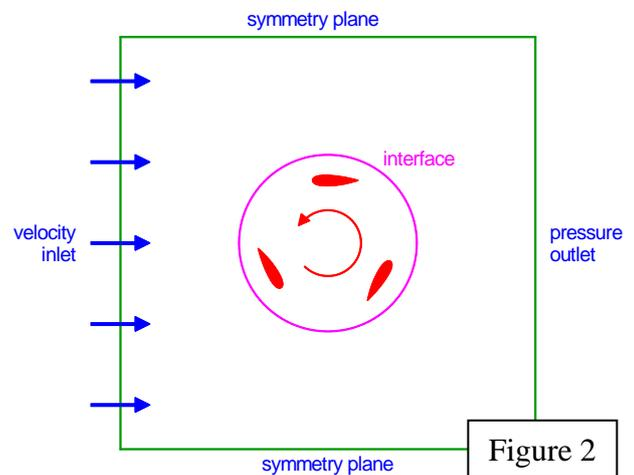

Figure 2
The geometry is divided into 2 parts (Fig. 2): a stationary outer domain, with an interface to a rotating inner domain. The latter contains the rotor: a number of identical blades spaced equally around a circle, each with an unpitched symmetric NACA0021 aerofoil profile. In a simple model, support struts and central axis are not included.
- Set boundary types for region boundaries (Fig. 2). Top and bottom are irrelevant. Make both sides of the interface anything other than a wall to prevent prism layers there.